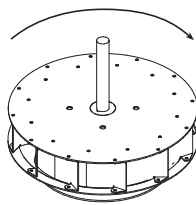

Figure 8
- Check wheel rotation (viewing from the shaft side) by momentarily energizing the unit. Rotation should be clockwise as shown in Figure 8 and correspond to the rotation decal on the unit. If wheel rotation is incorrect, reverse two of the wiring leads or check motor wiring for single phase. Fan RPM should be checked and verified with a tachometer.